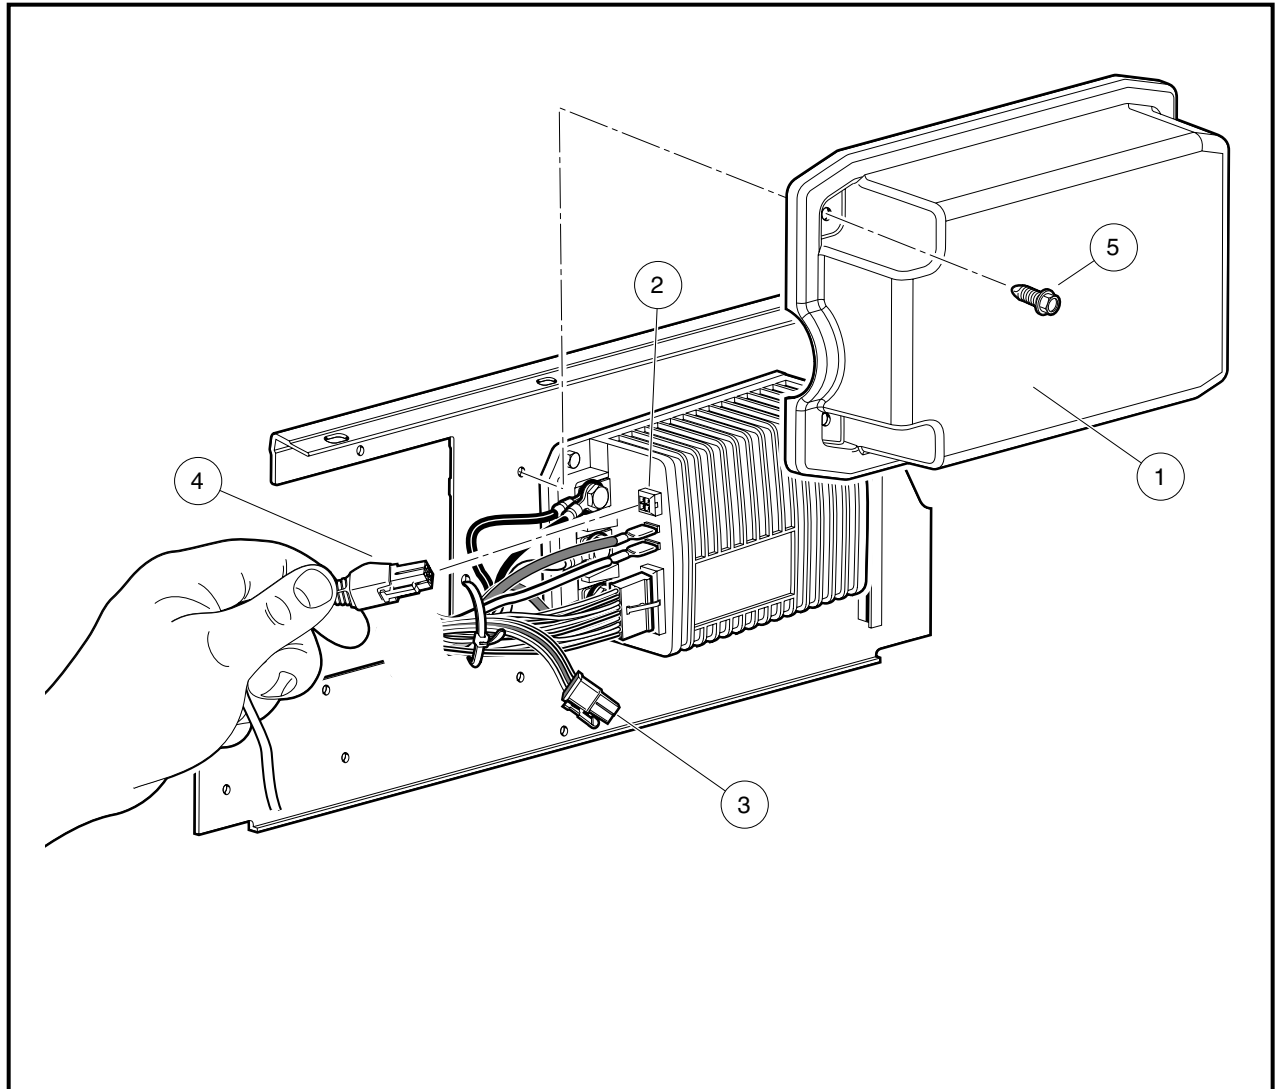

Figure 26 IQ System Component Mounting Plate
- 4.2. Remove the two screws (5) securing the controller cover (1) to the component mounting plate (**Figure 26**).
- 4.5. Connect the other end of the IQDM cord (without the adapter) (4) to the four-pin connector of the speed controller (2) (**Figure 26**).